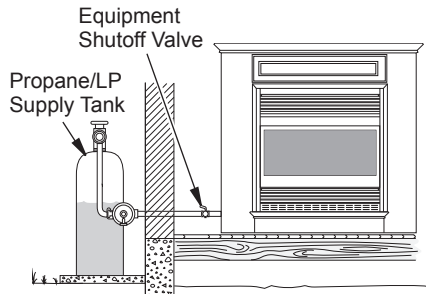

Figure 26 - Checking Gas Joints for Propane/LP Gas (Shown with Optional Mantel)
3. Check all joints from gas meter for natural or propane/LP supply to equipment shutoff valve (see Figures 26 and 27). Apply a noncorrosive leak detection fluid to gas joints. Bubbles forming show a leak.
4. Check all joints from equipment shutoff valve to thermostat gas valve (see Figures 26 and 27, page 18). Apply a noncorrosive leak detection fluid to gas joints. Bubbles forming show a leak.